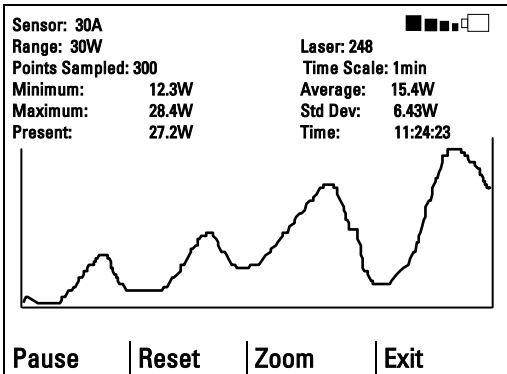

Figure 4.4.
3. Now press "log".and you will be in the power graph screen (See Figure 4.4.). Press "go" and the measurement will begin immediately. The "go" button will now change to "pause". If you wish to pause the measurements without losing data gathered, press "pause" . Press "pause" again to resume measurements. When the data register is full, "FULL" will flash on the screen. If "zoom" is pressed at any time, the screen display will expand fivefold around the present power value. Press "zoom" again to cancel the expansion. If you want to start a new measurement and not save the present data, press "reset". If you want to save the data before making a new graph, see the next section.